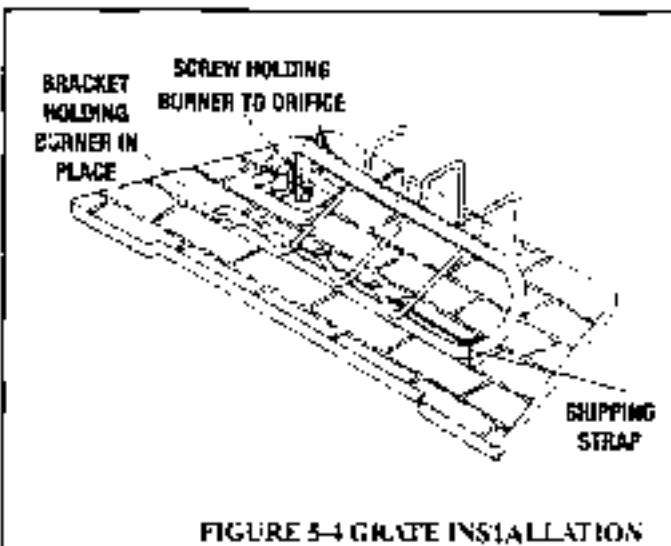

FIGURE 5-4 GRATE INSTALLATION
1. Remove the burner from the hearth by removing the shipping strap and the screw securing the burner to the orifice. Refer to Figure 5-4
4. Reinstall the screw securing the burner to the orifice. Refer to Figure 5-4